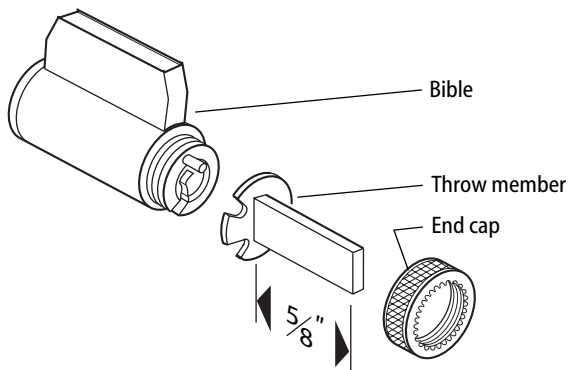

Figure 1 Assembling the throw member to the key-in-knob cylinder
- 3 Assemble the key-in-knob cylinder as shown in Figure 1.
Note 1: Make sure that the throw member blade is installed aligned with the cylinder 'bible' as shown in Figure 1. This prevents unauthorized removal of the cylinder.